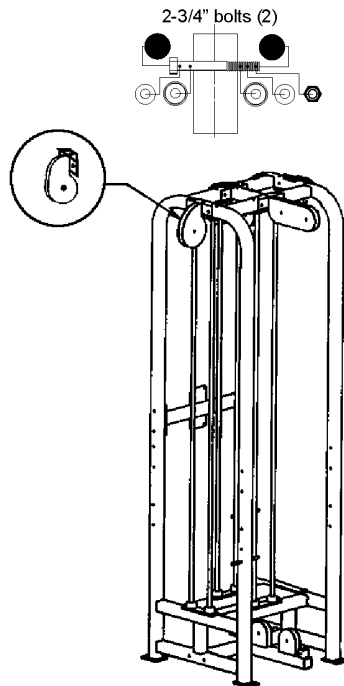
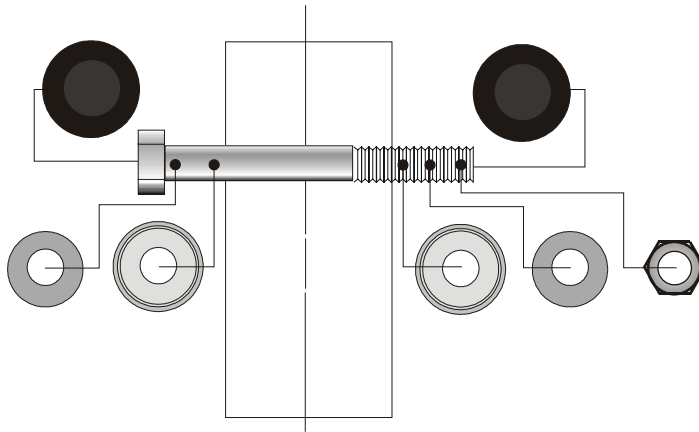

Figure 4. Bolt on the teardrop pulleys.
Figure 5. Configuration for 2-3/4" and 3" bolts.
2. Bolt on the teardrop pulleys above the lat benches (see Figure 4) on both cubes using two 3/8" x 2-3/4" hex head bolts (used to bolt the cross beam to the cross members and the adjustable pulley tops to the top beams). Include the 3/8" flat washer, end cap washers, end caps and 3/8" Nyloc (locknut). Use the bolt configuration shown in Figure 5. You may wish to use a pinch bar to align the bolt holes.
Hardware Figure 4 shows the types of cables that are included with the SM61.
Hardware Figure 4. Cables.
Hardware Figure 5. Top assemblies.